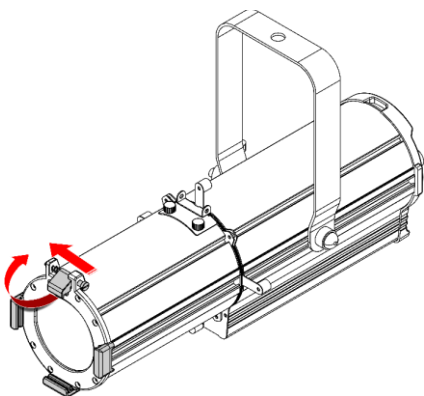

Fig. 10
- 01) Push the **spring-loaded screw (07)** and at the same time lift and flip backwards the **color frame clip (06)** (see Fig. 10).